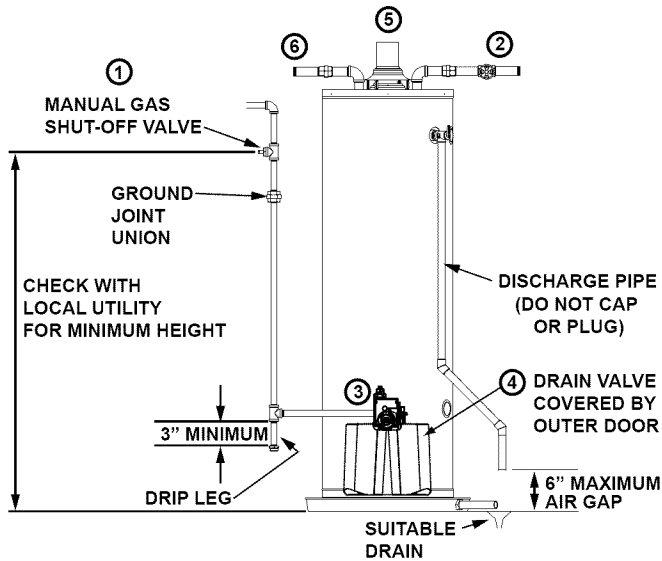

FIGURE 2.
If the main gas line shutoff valve serving all gas appliances is used, also shut "OFF" the gas at each appliance. Leave all gas appliances shut "OFF" until the water heater installation is completed. See Figures 2 and 3.
- ② Turn "OFF" the water supply to the water heater at the water shut off valve or water meter. Some installations require that the water be turned off to the entire house. See Figures 2 and 4.
- ④ Attach a hose to the water heater drain valve and put the other end in a floor drain or outdoors. (See Figures 2 and 5.) Open the water heater drain valve. Open a nearby hot water faucet which will relieve pressure in the water heater and speed draining. The water passing out of the drain valve may be extremely hot. To avoid being scalded, make sure all connections are tight and that the water flow is directed away from any person.